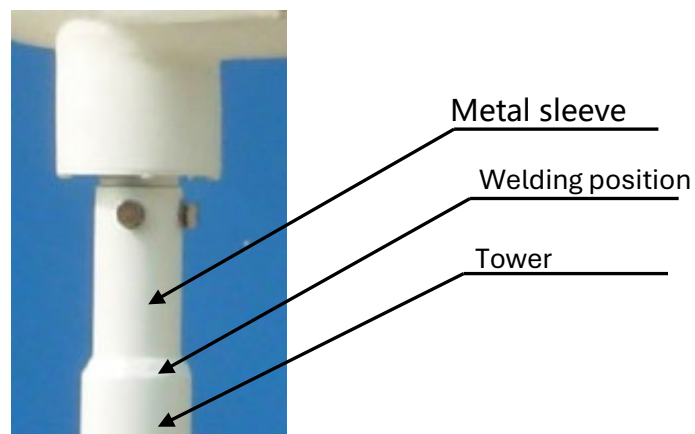

Figure2
3. Install the turbine head into the tower tube (see Figure 2)